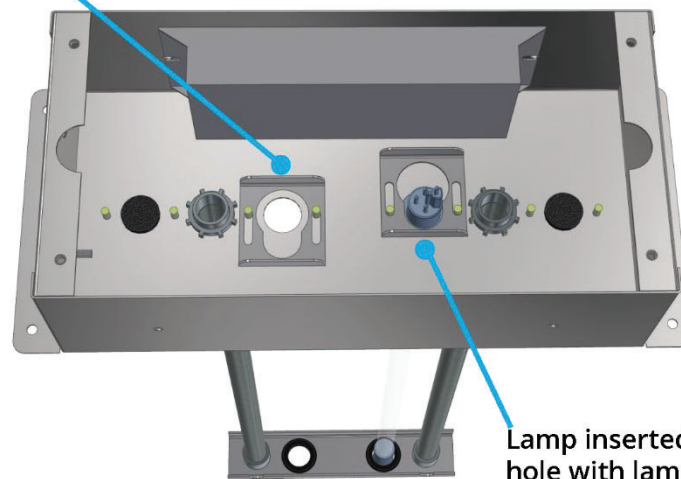

Figure 2. Gasket Placement
- 3) Open enclosure and remove adhesive gasket. Clean mounting surface of enclosure and apply gasket flat / not covering any hole plugs, if applicable. See Figure 2 for proper gasket placement. Replace enclosure cover.
- 8) Slide lamp clip over so the narrow portion of the keyhole slot captures the lip on lamp base, holding the lip between the lamp clip and the chassis. (see Figure 2)